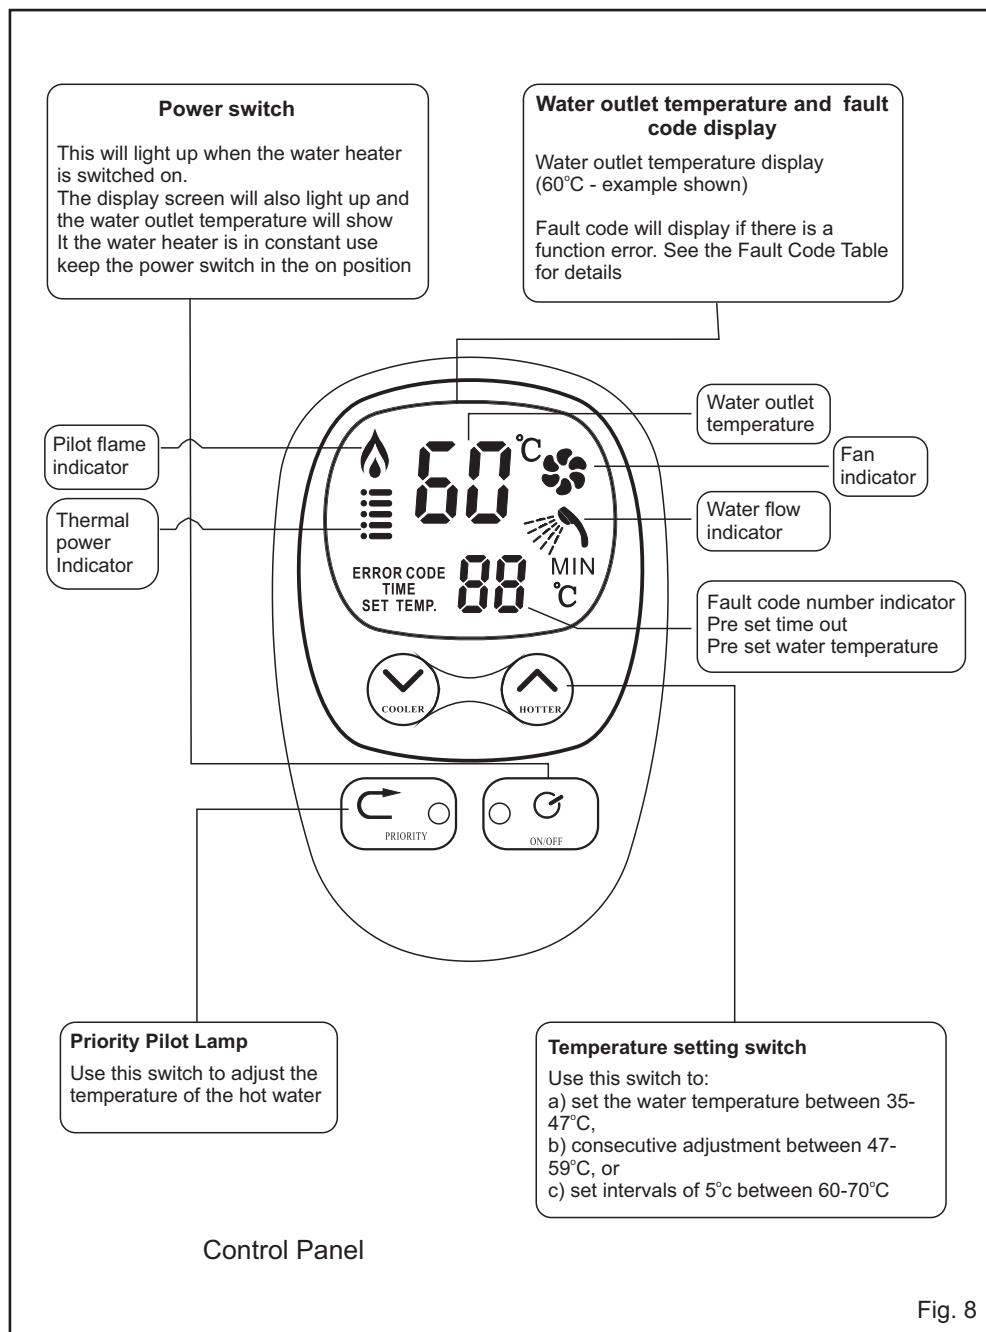

Fig. 8
- Press the power button on the display screen ( see Fig.8)